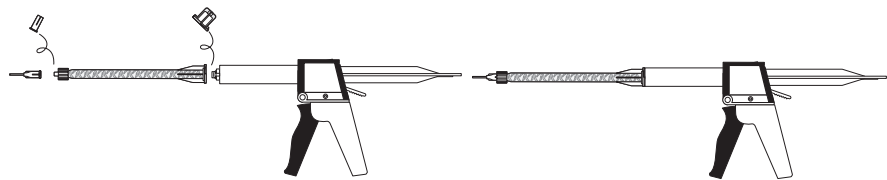

Figure 39 Attaching the Feed Tube and Syringe
4. Twist the feed tube onto the cartridge and attach the syringe tip to the feed tube (Figure 39 on page 65).